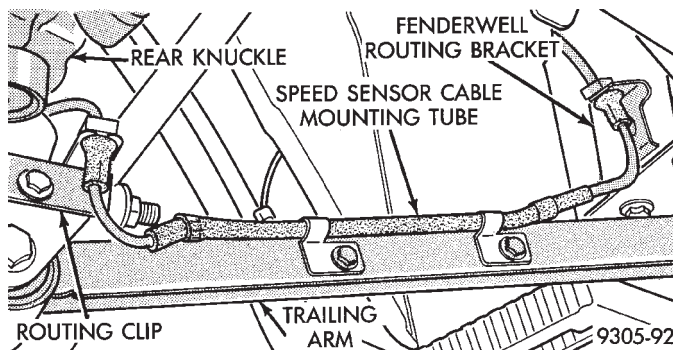

Fig. 3 Speed Sensor Routing Tube And Bracket
(4) If vehicle is equipped with rear disc brakes, remove rear braking disc from hub.
(5) If vehicle is equipped with rear disc brakes. Remove the speed sensor cable routing tube on trailing arm and the routing bracket on the trailing arm bracket to spindle (Fig. 3). **If spindle and trailing arm assembly is lowered from strut with the**